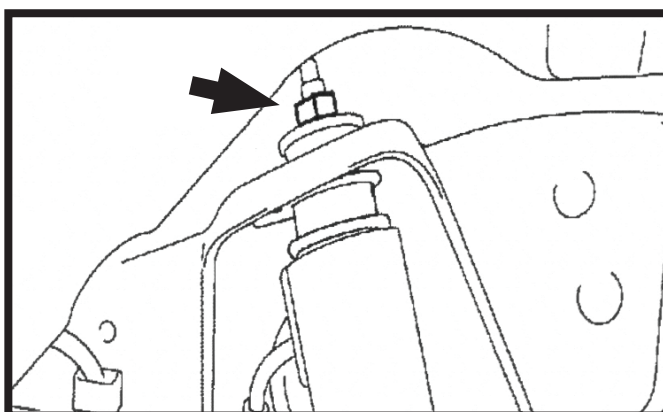

FIGURE 3
5. REMOVE THE NUT, CUSHION RETAINER, CUSHION AND SHOCK ABSORBER ASSEMBLY. (FIGURE 3)